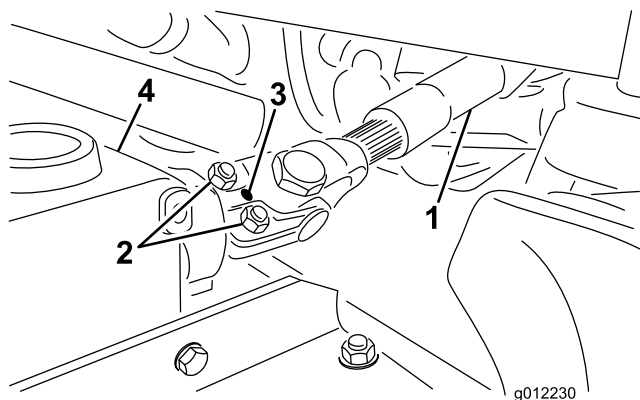

Figure 4
- A. Remove the roll pin from the end yoke and the gearbox shaft (Figure 4).
- B. Loosen the (2) capscrews and locknuts (Figure 4).
- C. Secure the end yoke of the PTO drive shaft to the gearbox shaft with the roll pin (Figure 4).
- D. Tighten the locknuts to secure the end yoke to the gearbox shaft (Figure 4). Torque the locknuts to 20 to 25 N-m (175 to 225 in-lb).